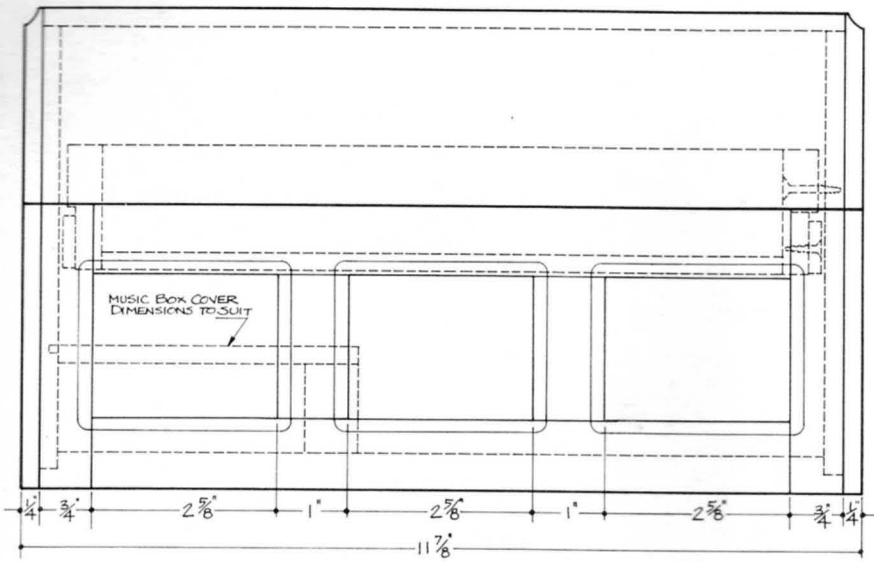

FIG. 3
The box is constructed of $\frac{1}{4}$ " walnut as shown in Figs. 3 and 4. The box bottom and music box case are made of re-sawed aromatic red cedar. The easiest way to attach the decorative strips to the box front and back is to use the jig shown in Fig. 5. Lay the strips (F pieces are $\frac{3}{4}$ " wide, E pieces are 1" wide) face down on the jig so they butt together and apply yellow glue; then clamp a side (A) down on top of the jig. The removable rabbeted strips on the jig provide the proper spacing to form the corner joint. After the glue is dry, these strips must be unscrewed to release the assembly.